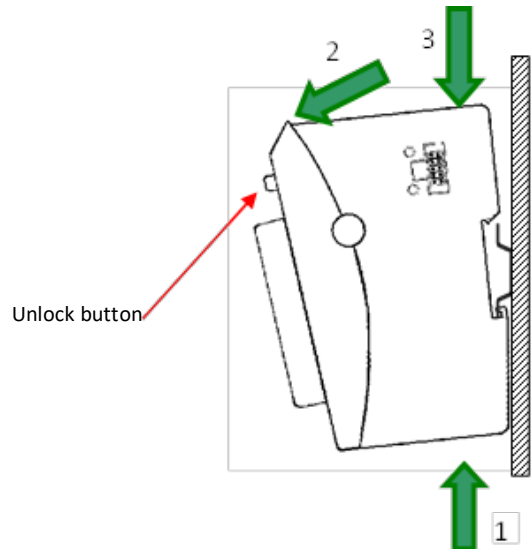

Figure 5: Uninstall a module
1. Push down the unlock button (see Figure 5) of the module that you wish to disconnect from the module to the left of it.